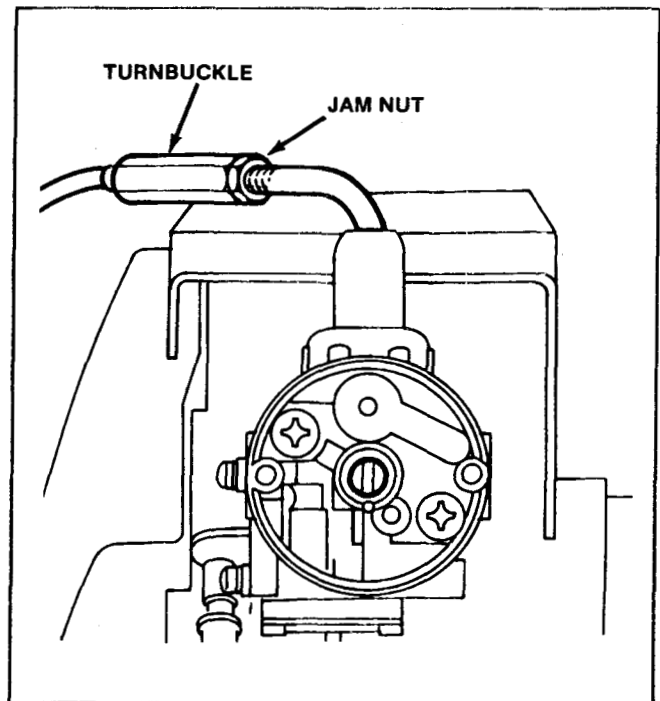

Figure 34
1. The high speed mixture screw (see Figure 34) controls the fuel flow requirements during the engine's optimum demand. With the engine running at operating temperature, the choke fully opened and, no load applied to the engine, turn the high speed mixture screw to obtain the highest RPM. This should be approximately 2 to 3 turns out from fully closed.
3. To adjust, loosen the jam nut on throttle cable and rotate the turnbuckle to increase or decrease the travel of the throttle valve. See Figure 34.